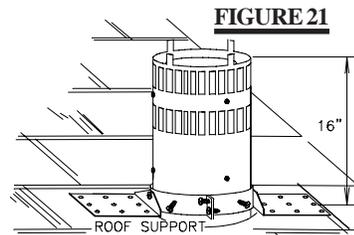

FIGURE 21
2. Fasten the roof support to the roof using the screws provided. **FIGURE 21.** The roof support is optional. In this case the venting is to be adequately supported using either an alternate method suitable to the authority having jurisdiction or the optional roof support.